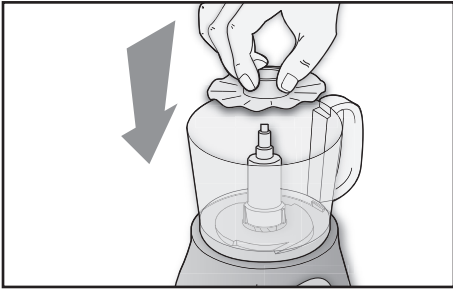

Fig. 6
- To use the appliance to whisk egg whites or whip cream, fit the special attachment (N) onto the blade support (L), as illustrated in Fig. 6.